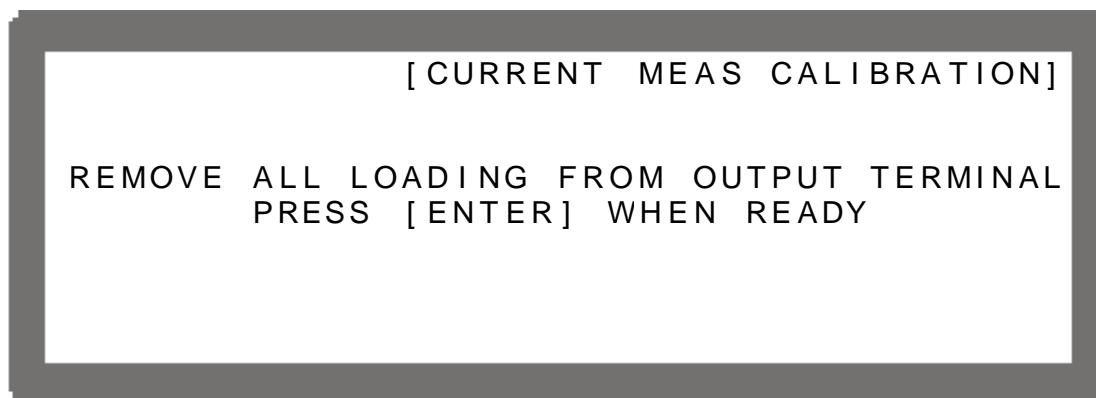

Figure 3-104
2. Press “**ENTER**” to confirm and entering into current calibration options as Figure 3-104 shows.